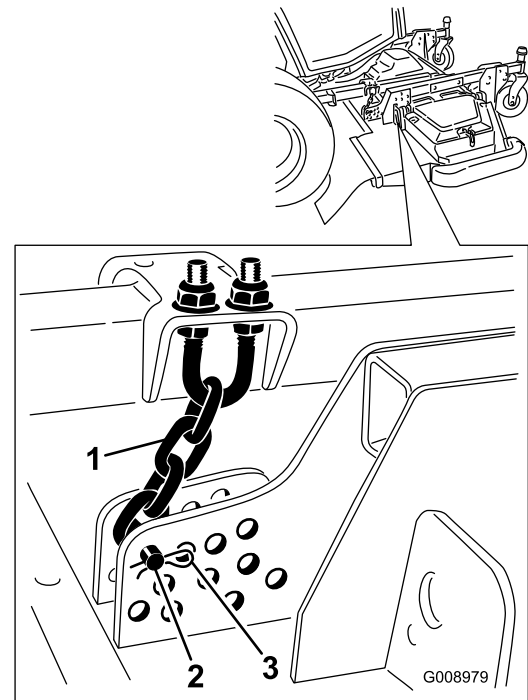

Figure 20
- 9. Remove the hairpin cotter and clevis pin securing the height-of-cut chains to the rear of the cutting unit (Figure 20).